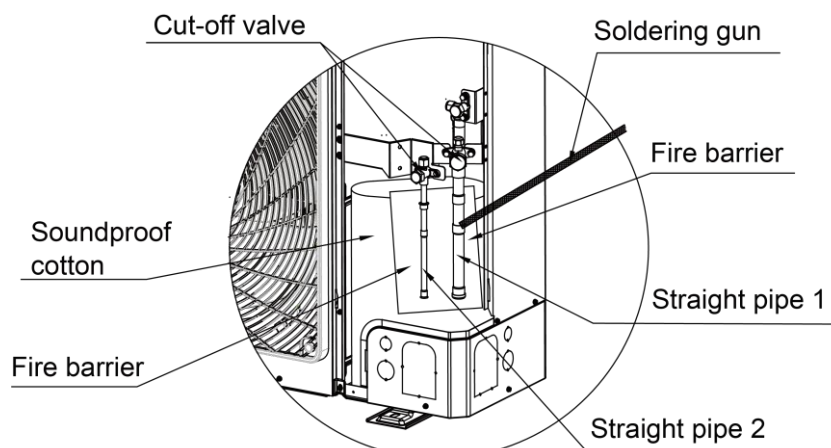
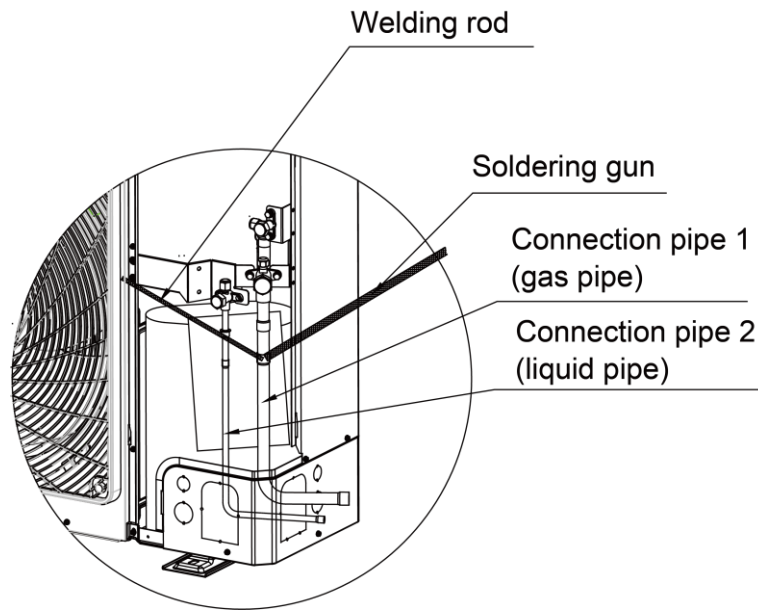

Fig. 15
Fig. 16
- (1) Pipe connection for M-VS-OV-224-SG: As shown in Fig.15 and Fig.16, open the outermost soundproof cotton and place a fire barrier between compressor and straight pipe. Use a soldering gun to unsolder straight pipe 1 and straight pipe 2. Install connection pipe 1 and connection pipe 2 to the corresponding position and then seal the apertures with welding rod. First weld the liquid side connection pipe and then weld the gas side connection pipe. During welding, it's necessary to use wet gauze to wrap up the two cut-off valves. Make sure the flame won't burn the soundproof cotton or other components.